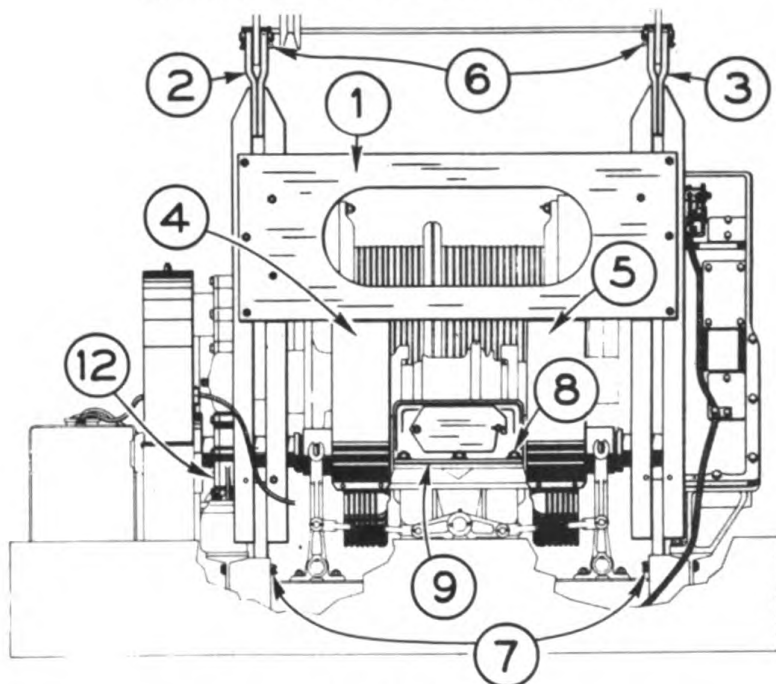

Figure 112
Drain and wash jack shaft chain and chain case. Clean bevel gear and case. Clean the bore in the main gear case where the right hand bearing retainer rests. Clean the left side stand where pillow block (6) rests. Lower the shaft assembly into place, being sure the countersunk grease plugs in the bevel pinion hubs are both up when the pinions mesh with the bevel gear to make the greasing operation easier. NOTE - If oil slinger (24) is bent by lowering the shaft, be sure to bend it back to its original shape. Start the two cap screws (25) into the lower half of the main gear case through bearing retainer (21) but do not tighten the colts. Be sure grease connection is up. Insert the four bolts (26) into the left side stand and pillow block. Check the backlash of the bevel pinions and bevel gear to be sure there is the same amount of backlash in both pinions. Draw pillow block bolts (26) down tight. For further adjustment of the bevel pinion backlash, add or remove shims (27) as needed. Adding shims will move both pinions to the left - removing shims will move both pinions to the right. When the shaft has been properly assembled with all bearings against their respective shaft shoulders, the distance between the bevel pinions is permanently set. When the backlash of both pinions is equal but in excess of what is required the bevel gear can be raised to decrease the backlash. Bolt felt retainer (4) to lower half of the chain case. NOTE - Use new felt if needed. Replace the chain. It will be easier to couple the chain ends together if the coupling is done on top of the large sprocket. (See instructions under "Chains", Page 197.) Replace chain case and fill case with oil as per lubrication instructions, Page (67), Operation Section. Remove the countersunk plugs in the bevel pinion hubs and screw in a grease connection. Pump WB grease into the pinion connection-the amount of grease depending upon how well the bearings were grease packed when assembled. Remove grease connections and replace countersunk plugs. Pump WB grease into pillow block and gear case ball bearing. Replace gear case cover. Replace "A" frame tension members with pins (6) and (7) and secure with cotter. (Figure 112.) Replace bevel gear case cover and swing drum guards. Replace plate (1) on the "A" frame and bolt swing drum guards to it.
Lower the boom to cribbing as shown on Page 97, Operation Section, and pull all cable off the boom hoist drum, then knock out the cable wedge and pull cable loose from the drum. Remove plate (1) Figure 112 which is bolted to "A" frame tension members and to clutch guards (4) and (5). Remove pins (6) and (7) Figure 112 at top and bottom of "A" frame right hand tension member and remove the tension member. Remove upper half of the main gear case as described on Page (131), Maintenance Section. If a chain block is to be used for lifting, remove the curved section of the bulkhead just below the "A" frame shaft and fasten the chain block to the "A" frame shaft. Remove bolts from pillow block (1) at the left end of the shaft. Remove boom pawl spring from the left hand "A" frame tension member - near the bottom. Take out the pins in both ends of the boom hoist brake band and remove the band. Attach the chain block to the shaft and lift the shaft until the gear and clutch drum will clear the lower half of the gear case. Tilt the shaft assembly slightly as it is being raised in order to clear the boom hoist drum from the boom hoist drum ratchet pawl. Cover the main gear case to keep dirt out of it while working on the shaft assembly. CAUTION - Do not lose the dowel pin in the outside of bearing retainer (2).
With shaft raised by chain block in position to be replaced, tilt the boom hoist drum down, as the shaft is being lowered, to engage the boom ratchet pawl in the boom drum ratchet. When the ratchet pawl is engaged, lower the shaft almost to the main gear case bearing. Then check to be sure the boom clutch shift collar will engage with its shifting fork and that the dowel pin in the outside of bearing retainer (2) will engage with the notch cut for it in the lower half of the gear case. Let the shaft down into place, checking dowel pin and bearing retainer again. NOTE- The dowel pin must be in its notch to align the gear case cover for proper fit. Bolt pillow block (1) on left side stand. Replace boom drum brake band, insert brake band pin and secure with cotters. Replace upper half of main gear case cover as described on Page (131). Replace "A" frame tension members (2) and (3) Figure 112 and plate (1) Figure 112. Insert pins (6) and (7) Figure 112 and secure with cotters. Hook boom ratchet pawl spring to left "A" frame tension member and replace curved section of cab under "A" frame shaft. Fasten boom cable to boom hoist drum with wedge. Adjust boom hoist brake as described under "Brake Adjustments," Page (89), Operation Section. Check boom hoist safety ratchet pawl to see that it is operating properly. Replace grease connection in pillow block (1), then pump grease into all grease connections on the shaft. Remove pipe plug in clutch drum hub, screw in grease connection, then pump in WB grease. Remove grease connection and replace pipe plug.